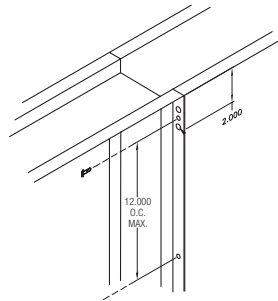

Figure 2
- 3) Due to shipping constraints, some large damper assemblies may ship in multiple sections and require field assembly. The damper sections must be attached together with #14 sheet metal screws, ¼ in. (6mm) diameter nuts and bolts, tack or spot welds, or ⅜ in. (4mm) diameter steel pop rivets. Attachments must be spaced a maximum of 12 in. (305mm) on center and a maximum of 2 in. (51mm) from corners. Attachments must be made on front face and back face (air entering and air exiting side) of damper sections. **Figure 2**